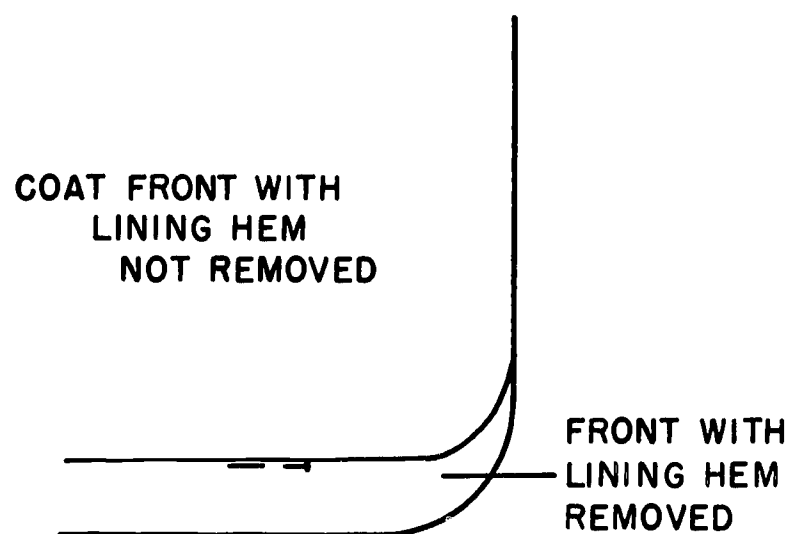

Figure 47.
5. Place the wrong side of the opposite coat front on top of the right side of the front which has had the lining stitches removed. The hemline of the one side of the coat front should be on the pin or chalk mark on the other side, which indicates the amount the coat is to be shortened. Be sure that both front edges of the coat are together (see Figure 47). Follow the edge of the top coat front when marking the new hemline so that the original curve of the hemline will not be changed. Mark around the hem edge from the side seam to the front of the coat.